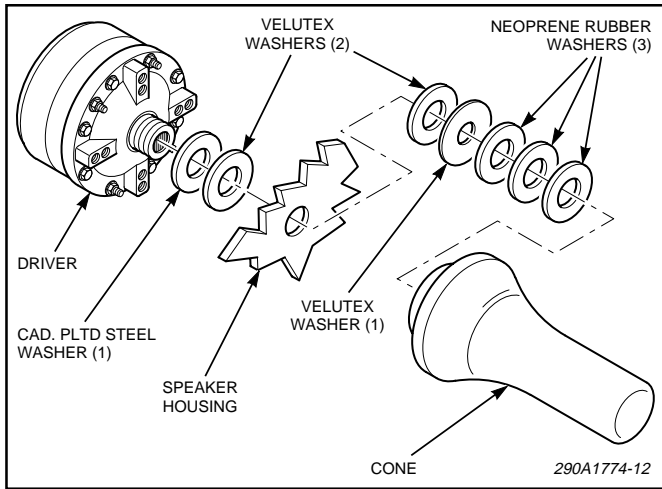

Figure 6. Speaker Driver and Cone Replacement.
To replace the speaker driver and cone, proceed as follows (see figure 6):
8. Reinstall cone. Ensure that washers are installed correctly (see figure 6).